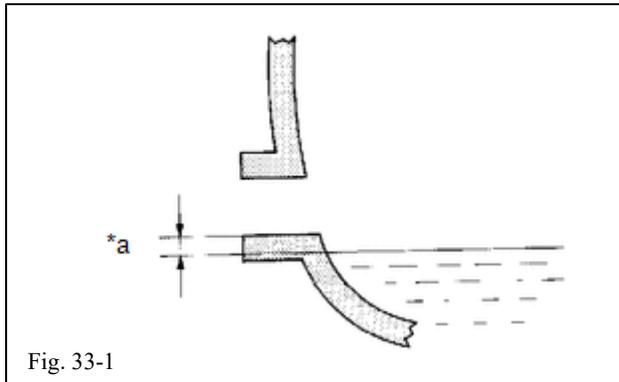

Fig. 33-1
- (a) Add differential oil so that the oil level is between 0 to 5 mm (0 to 0.197 in.) from the bottom lip of the differential filler plug hole (Fig. 33-1).